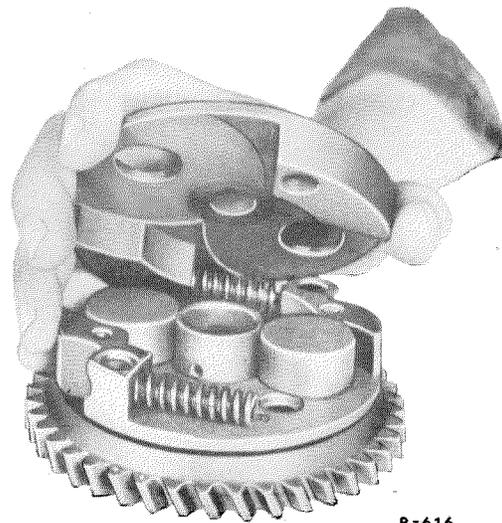

Figure 07-28/2
Stop bolts with a length of 37 ± 0.1 mm were installed in engines previous to the above engine No. During repair work on the injection timing device these springs must be replaced by 39 mm long springs Part No. 621 075 0174. If the stop bolts (7) have worked themselves into the spring seat bolts (5), replace the latter by the bolts (5) (Part No. 621 075 0274) (see Figure 07-28/1).
6. Screw the segment plate (2) onto the drive gear (1), so that one of the bolts (5) is located next to the marked teeth (Figure 07-28/1). Only original screws M 8×12 DIN 933—8G with the correct length should be used for securing, so that they do not protrude at the sliding surface for the centrifugal weights on the segment
7. Lay the centrifugal weights (4) on the sliding surfaces of the segment plate (2), so that they touch the contact surfaces (3). Insert the bolts (5) in such a way that the milled part is on top and faces the tension springs (6). Insert the tension springs (6) in the segment plate (2) and put the stop bolts (7) into the tension springs (6) (Figure 07-28/1).
8. Put the segment flange (8) on one of the springs, so that the groove (9) for the Woodruff key will be located on the same side as the marked teeth of the drive gear (1) (Figures 07-28/1 and 07-28/2).
Then tilt the segment flange downwards, so that the second spring can be installed. Press the flange downwards and turn it clockwise at the same time (Figure 07-28/2).